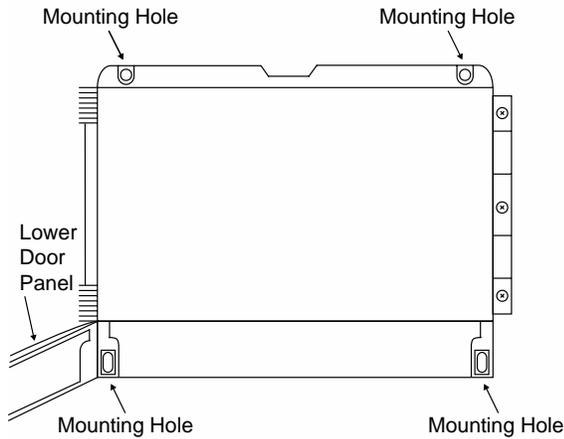

Figure 1. Meter Mounting Holes Location
- Prepare a section of wall approximately 11" x 13" (280 mm x 330 mm) for meter mounting by marking with a pencil the mounting holes (shown in Figure 1) on the wall.